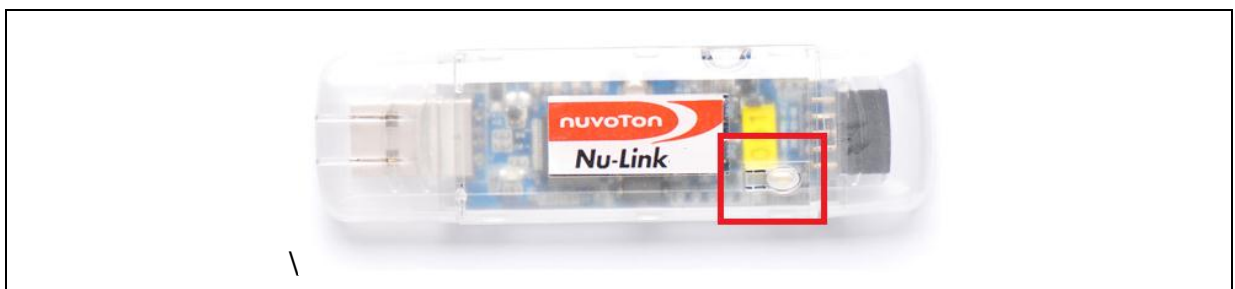

Figure 3-1 Offline Programming Button
Next, user can program the target devices with this dongle alone (instead of using PC and ICP Programming Tool) by pressing the button on the Nu-Link dongle (red part in Figure 3-1).
Pressing the button on the Nu-Link dongle (red part in Figure 3-1) will switch the Nu-Link to Offline Download mode and start to download the offline data to target chip immediately.
- **Keypad (red part in Figure 3-1)** - press the keypad to switch to “Offline Download mode”
- **Keypad (red part in Figure 3-1)** - Not defined.